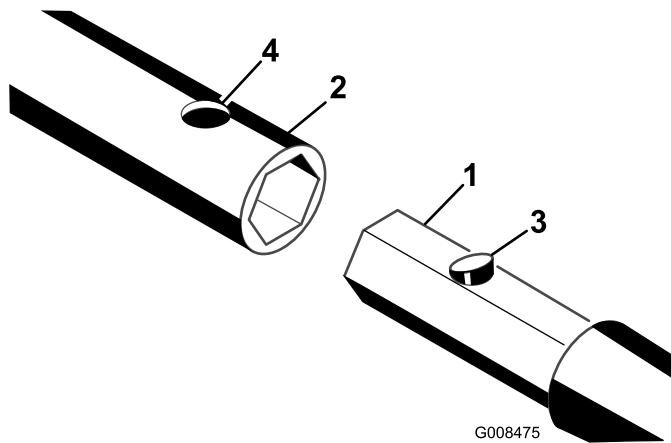

Figure 3
2. Slide the hex shaft of a rod, boring bit, or reamer into the socket. Align the hole in the socket with the push button connector (Figure 3).
3. Press down the push button connector and push the shaft into the socket until the connector snaps into the hole in the socket (Figure 3).